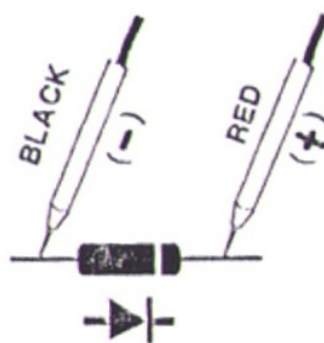

Fig. 3
- b. When connected as shown in Fig. 3, a reverse check on the diode is made. If the diode under test is good, " OL " will be displayed. If the diode under test is defective, " 0.000 " or other numbers will be displayed. Proper diode testing should include both steps a. and b. above.